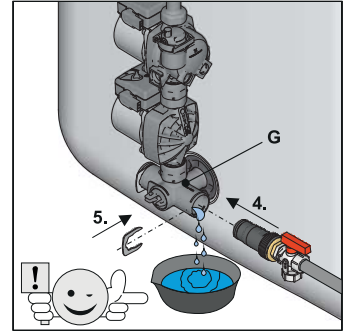

Fig. 5-6 Assembling the KFE filling connection in the connecting elbow
Tab. 5-1 Legend from fig. 5-1 to fig. 5-6
- Insert the **KFE filling connection** into the connecting elbow and secure using a retaining clamp (fig. 5-6).